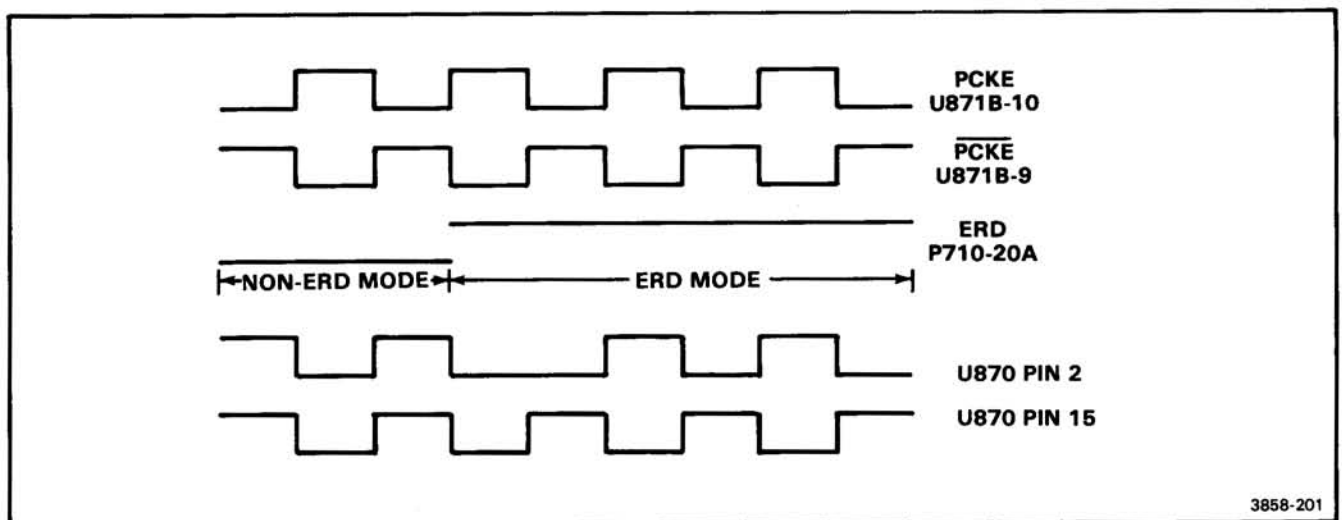

Figure 2-7. Generation of non-ERD and ERD CCD modes.
The phase clock (PCKE and $\overline{\text{PCKE}}$), ERD and fast-in (FI) signals provide the basic timing and control for the CCD clock signals. Line receivers U871B and U871C, and quad-OR gate U870, decode the PCKE, $\overline{\text{PCKE}}$ and ERD signals into two CCD clock signals at pins 2 and 15 of U870 (see Fig. 2-7).